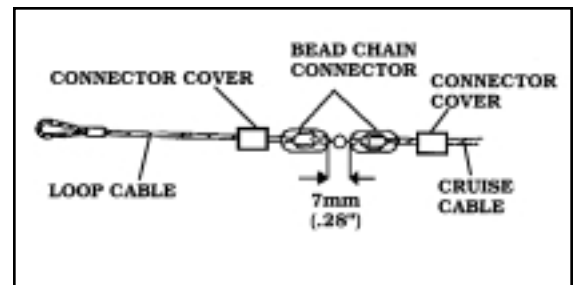

FIGURE 7
EXAMPLE: IF YOUR THROTTLE TRAVELS 35MM (1-3/8"), YOU WILL NEED TO ADD **ONE (1)** BEAD BETWEEN CONNECTORS. **FIGURE 7**